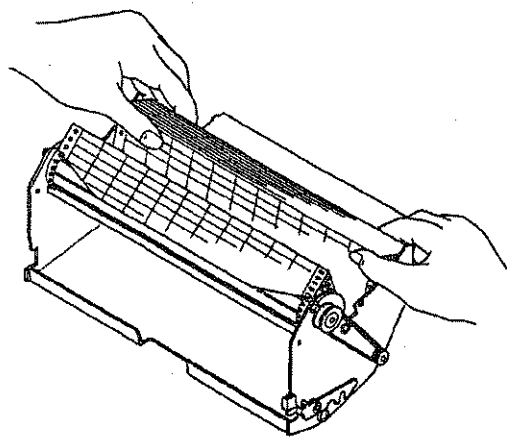

Figure 6.13
- (5) Set the chart so that the round holes in the chart are positioned at the left and the chart end with both edges cut off is positioned to face you. (Figure. 6.13)